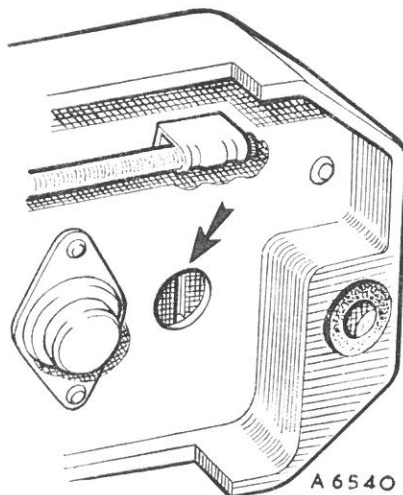

Fig. N.15
- (d) Run the engine to give an alternator speed of 3,000 r.p.m., with the conditions of test as in (3).
- (e) Turn the adjuster slot gradually until the voltmeter registers a stable reading within the correct voltage limits (see Fig. N.15). Only a small adjuster movement is needed to effect an appreciable difference in the voltmeter reading.